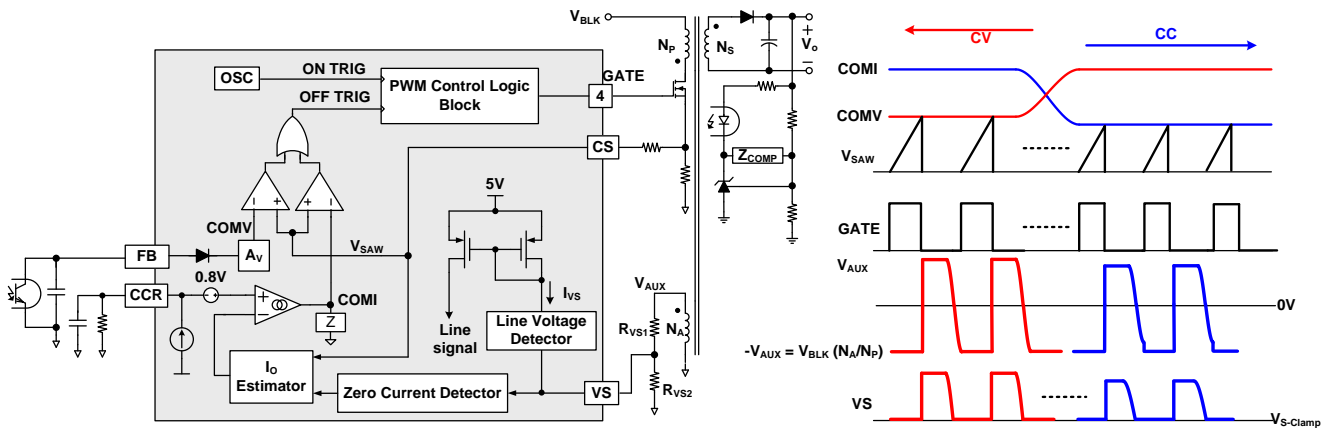

Figure 27 Simplified PWM Control Circuit and PWM Operation for CV/CC Regulation
The FAN604H indirectly senses the line voltage through the VS pin while the MOSFET is turned on, as illustrated in Figure 27. MOSFET turn-on period, the auxiliary winding voltage,  $V_{AUX}$ , is proportional to the input bulk capacitor voltage,  $V_{BLK}$ , due to the transformer coupling between the primary and auxiliary windings. During the MOSFET conduction time, the line voltage detector clamps the VS pin voltage to  $V_{S-Clamp}$  ( $0 V$ ), and then the current  $I_{VS}$  flowing out of VS pin is expressed as:
Figure 27 shows a simplified CV / CC PWM control circuit of the FAN604H. The Constant Voltage (CV) regulation is implemented in the same manner as the conventional isolated power supply, where the output voltage is sensed using a voltage divider and compared with the internal reference of the shunt regulator to generate a compensation signal. The compensation signal is transferred to the primary side through an opto-coupler and scaled down by attenuator  $A_V$  to generate a COMV signal. This COMV signal is applied to the PWM comparator to determine the duty cycle.
These two control signals, COMV and COMI, are compared with an internal sawtooth waveform ( $V_{SAW}$ ) by two PWM comparators to determine the duty cycle. Figure 27 illustrates the outputs of two comparators, combined with an OR gate, to determine the MOSFET turn-off instant. Either of COMV or COMI, the lower signal determines the duty cycle. During CV regulation, COMV determines the duty cycle while COMI is saturated to HIGH level. During CC regulation, COMI determines the duty cycle while COMV is saturated to HIGH level.
Where Lm is the transformer's primary side magnetizing inductance. Since the output current error is proportional to the line voltage, the FAN604H incorporates line voltage compensation to improve output current estimation accuracy. Line information is obtained through the line voltage detector as shown in Figure 27. ICOMP is an internal current source, which is proportional to line voltage. The line compensation gain is programmed by using CS pin series resistor, RCS\_COMP, depending on the MOSFET turn-off delay, tOFF\_DLY. ICOMP creates a voltage drop, VOFFSET, across RCS\_COMP. This line compensation offset is proportional to the DC link capacitor voltage, VBLK, and turn-off delay, tOFF\_DLY. Figure 29 demonstrates the effect of the line compensation.